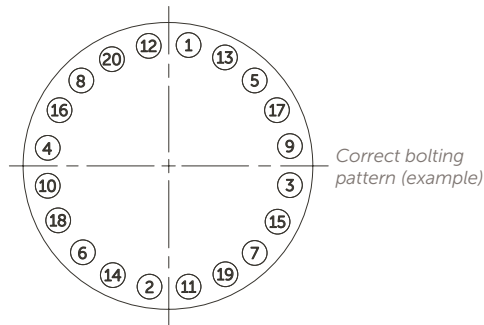

Figure 22.
4. Follow the bolting pattern as shown in Figure 22.